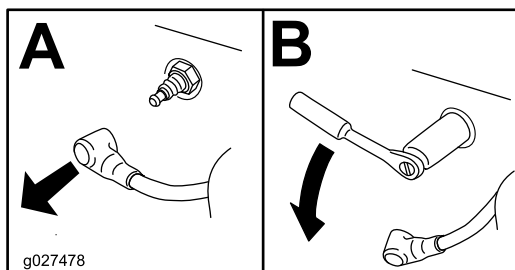

Figure 28
3. Remove the spark plugs as shown in (Figure 28).